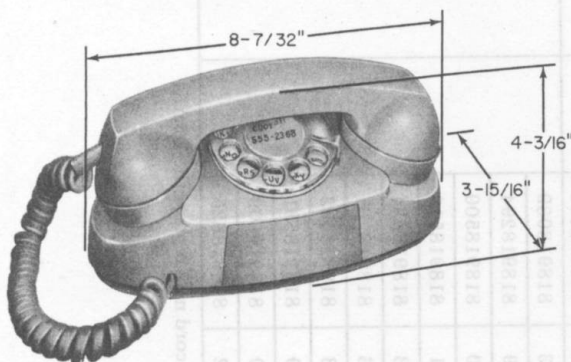

Fig. 1—700-Type Telephone Set
1.01 This section provides identification, installation, maintenance, and connection information for 701B (MD), 702B, and 702BM telephone sets (Fig. 1).